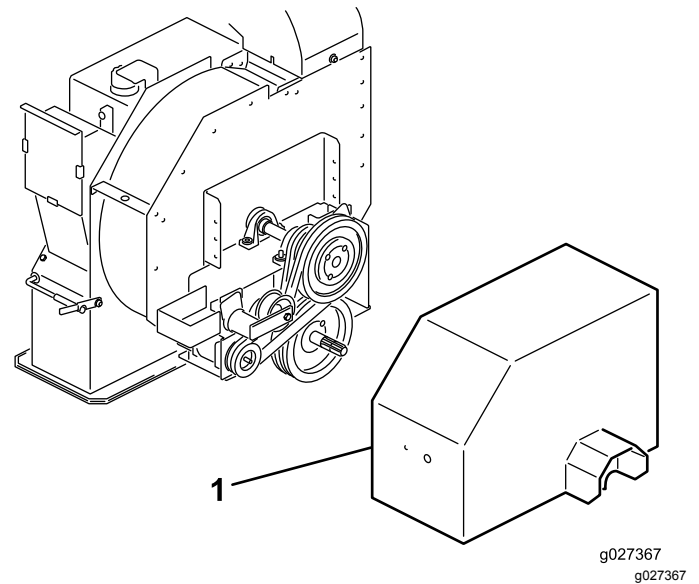

Figure 12
1. Remove the drive shield from over the pulley assemblies (Figure 12).
1. Loosen the bolts and nuts securing the drive shield to the impeller housing (Figure 12) and remove the shield.